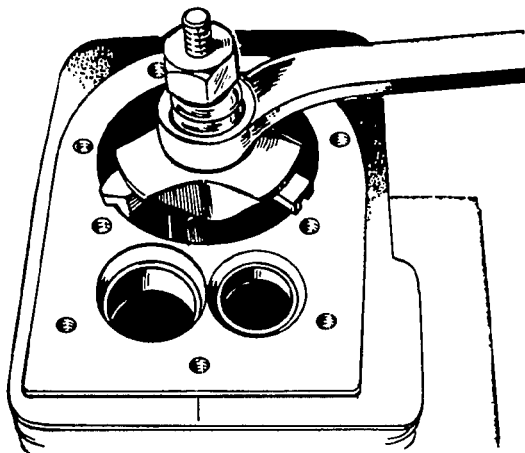

FIGURE 12. REMOVING RIDGE FROM CYLINDER
3. Remove the ridge from the top of each cylinder with a ridge reamer before attempting piston removal (Figure 12).